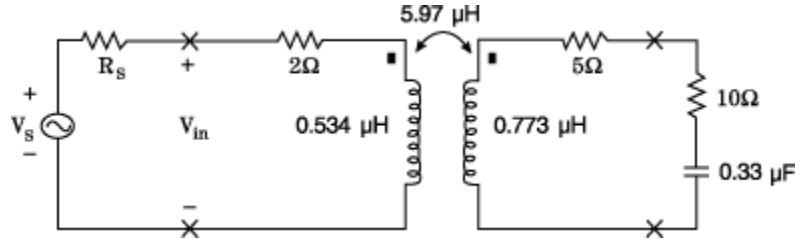

Figure 2: Loaded Linear Transformer
- 1) For this lab the internal resistance of the function generator, R_s , must be determined exactly. Inductances are difficult to measure correctly (even with specialized equipment), so accuracy will become especially important in your calculations of component values. A simple model of the function generator is an independent voltage source with a series resistor (see the left side of figure 2). However, R_s is effectively inside the function generator box, so you cannot directly measure it with an ohmmeter. Keeping this in mind, develop an experimental method to determine the value of R_s . (Hint: Think about how a voltage divider works.)
- 4) Consider the linear transformer given in figure 2 below. Given that the frequency of the input is $f = 500 \text{ kHz}$, $R_s = 50 \text{ } \Omega$, and the voltage at $V_s = 1 \text{ V}_p$ find: